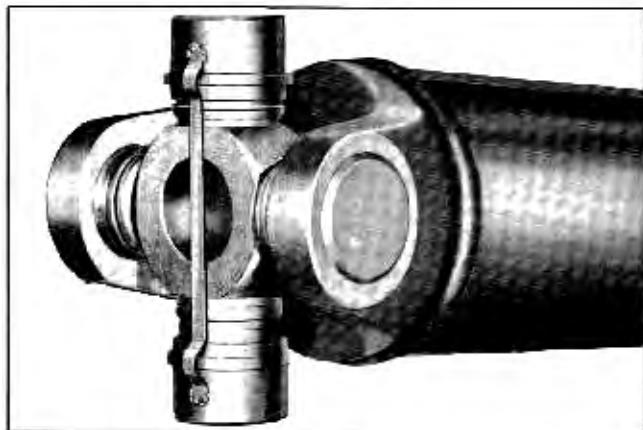

Fig. 4-45 Bearings Held in Place by Tie Wire
1. Remove "U" bolt nuts, locking plate and "U" bolts. Use a heavy rubber band to hold bearings onto journal if tie wire has been removed to prevent loss of needle bearings when rear joint is disconnected (Fig. 4-45).